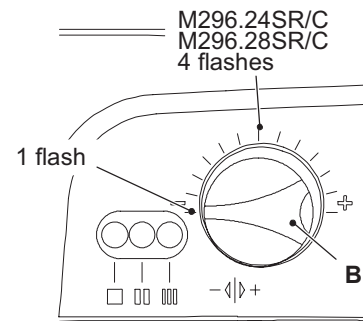

Figure 8.14
At this step it is possible to visualize the current setting by keeping the reset button D pressed for more than 5 seconds. The lamps F will flash a number of times corresponding to the setting (Figure 8.14).
- 7 To change the setting turn the knob B on a position corresponding to the boiler models (Figure 8.14).